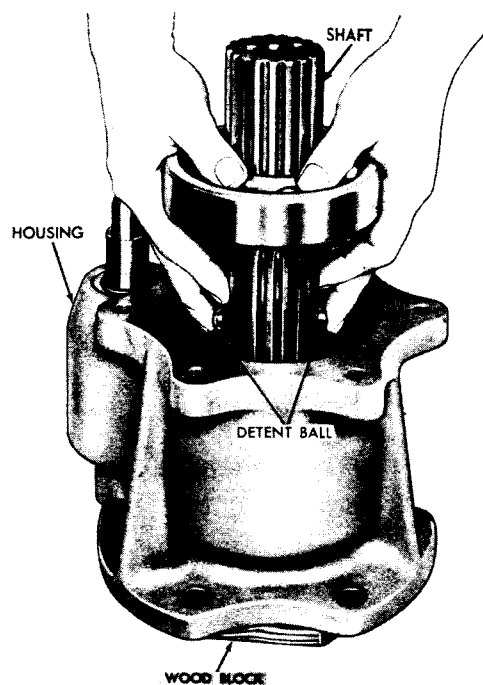

Fig. VI-41. Installing output shaft
(7) Install the detent spring into the hole through the shaft. Hold the detent balls in place and install the output shaft into the shift coupling (fig. VI-41). Push the shaft downward until the detent balls are retained by the coupling.
(8) Continue to push or tap on the shaft until the detent balls snap into the first detent groove in the coupling. Remove the blocking under the coupling and tap the ball bearing outer race until it seats in the housing.
(9) Install thrust washer 10 (A, foldout 12), needle bearing inner race 23 (A, foldout 10) or 49 (B, foldout 11) and snap ring 25 (A, foldout 10) or 50 (B, foldout 11) onto the rear of shaft 14 (A, foldout 12).
(10) If oil seal 18 was removed from retainer 17, install a new oil seal. Press the seal, spring-loaded side first, into the retainer until it seats lightly.